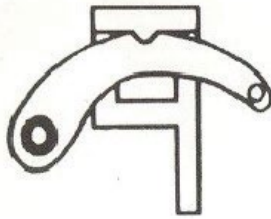

Figure 1.
1. Following all safety precautions, place the foot of the jack beneath the load. Lift the reversing latch (17) to its "UP" position and ensure it is locked in place, i.e. the indentation on the latch is firmly engaged with the notch on the reversing switch cam (15), refer to fig. 1. Jack up the nose until it comes into contact with the load at the desired point of lift (consult the car manufacturer's operation guide). Pause at this stage and check to ensure there are no obstacles for a clean lift.
2. Pull down firmly and evenly on the handle and observe the load rising. As the handle is pulled down you will hear the climbing pin (13) click into place as it locates in a hole in the steel frame bar (3). At this point relax the handle allowing the pin (13) to take the load. Raise the handle to the top of its stroke to take a fresh move and pump the handle once again.